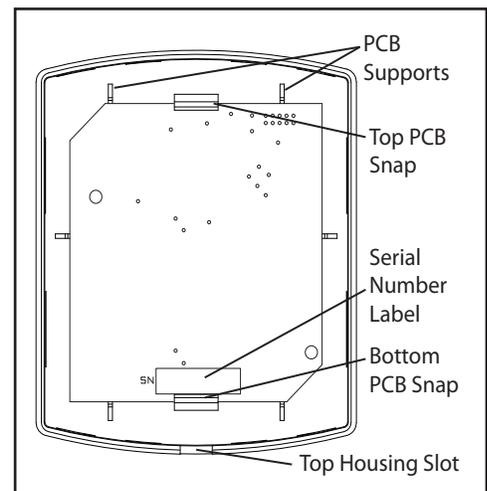

Figure 7: Top Housing PCB Snaps Location
3. Turn the top housing over and using your fingers, gently pull back the top printed circuit board (PCB) snap. See Figure 7.